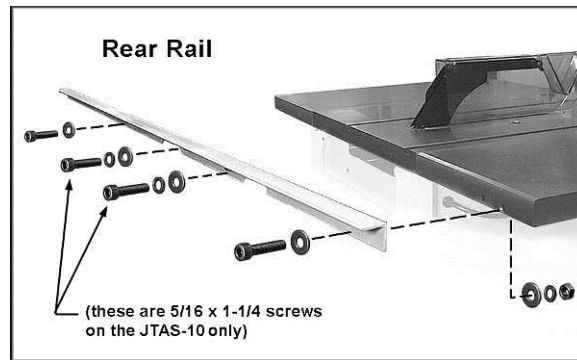

Figure 3
- Place the **rear rail** against the back edge of the table, making sure the notches in the rail are properly oriented. See Figure 3.